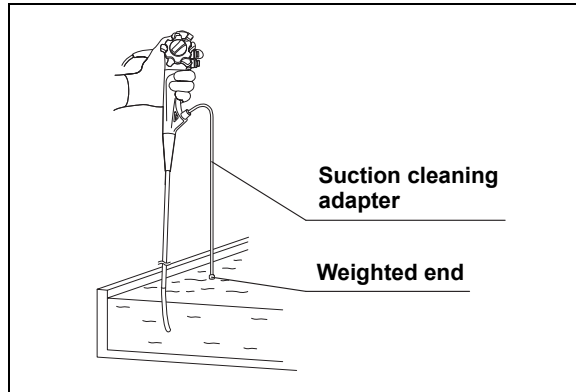

Figure 3.23
1. Attach the suction cleaning adapter to the instrument channel port (see Figures 3.23 and 3.24).